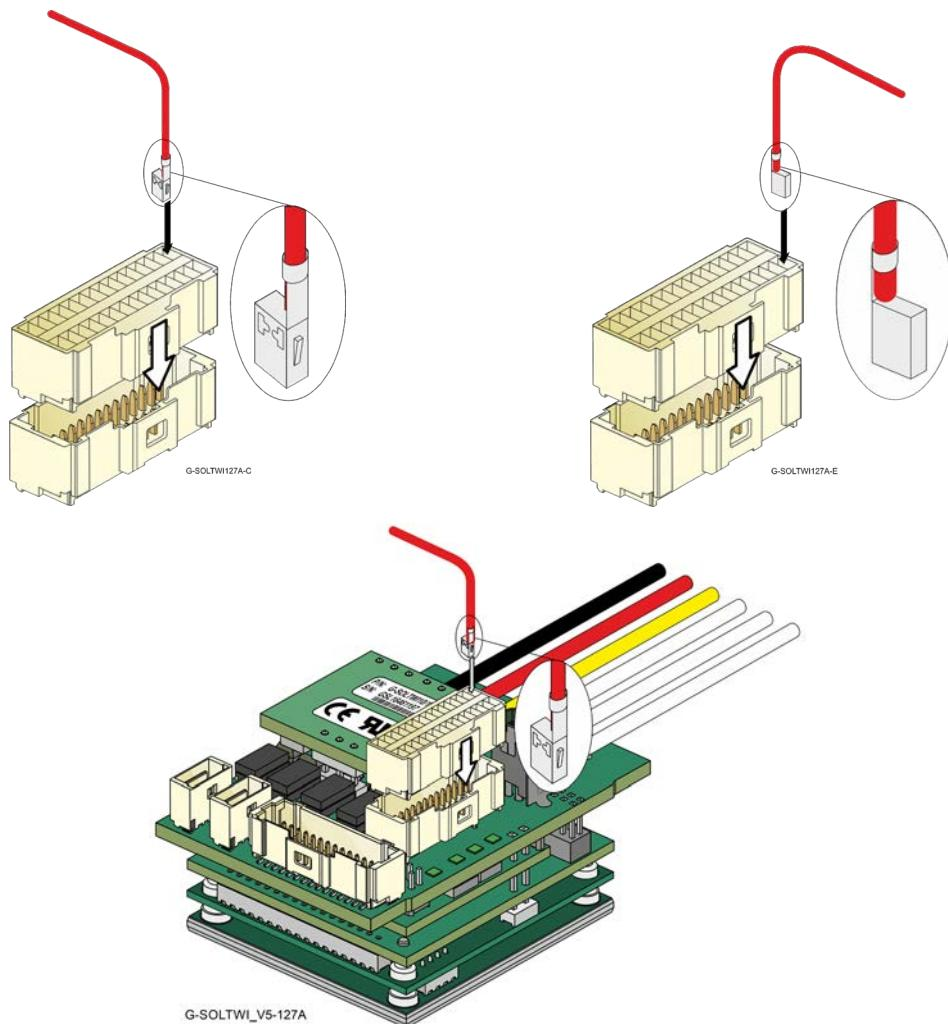

Figure 8: Inserting a wire/pin to the Female Connector
3. Place the connector on a flat surface, in the orientation as shown in Figure 8. Notice that the rectangular slot has a niche at the bottom of the slot.
4. Insert the wire connector to the slot as shown in Figure 8. Make sure that the connector protrusion is inserted to the bottom of the rectangular slot.